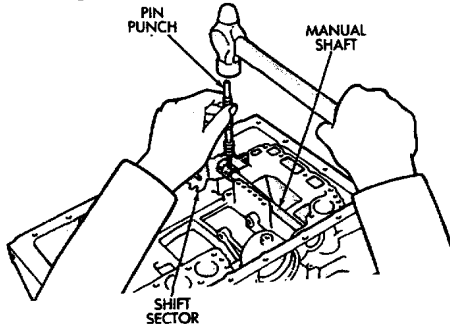

Fig. 3 Removing/Installing Sector Retaining Pin
- (2) Remove shift sector retaining pin with pin punch (Fig. 3).
- (3) Pull shaft out of case and remove manual lever.
- (4) Carefully pry shaft seals from case.